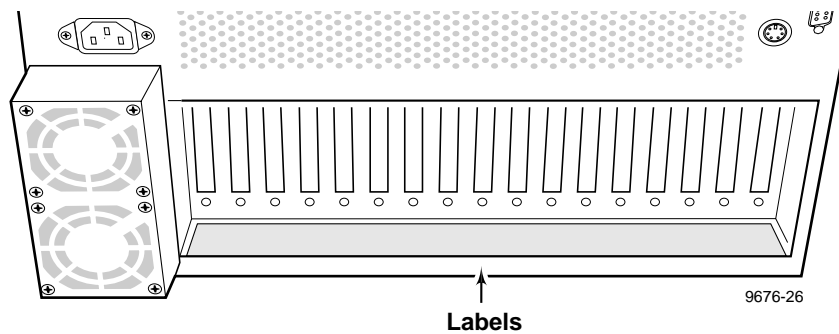

Figure 20. Stick-on label location
1. Apply stick-on labels on the Profile chassis rear panel to help identify all new board locations. (See Figure 20.)